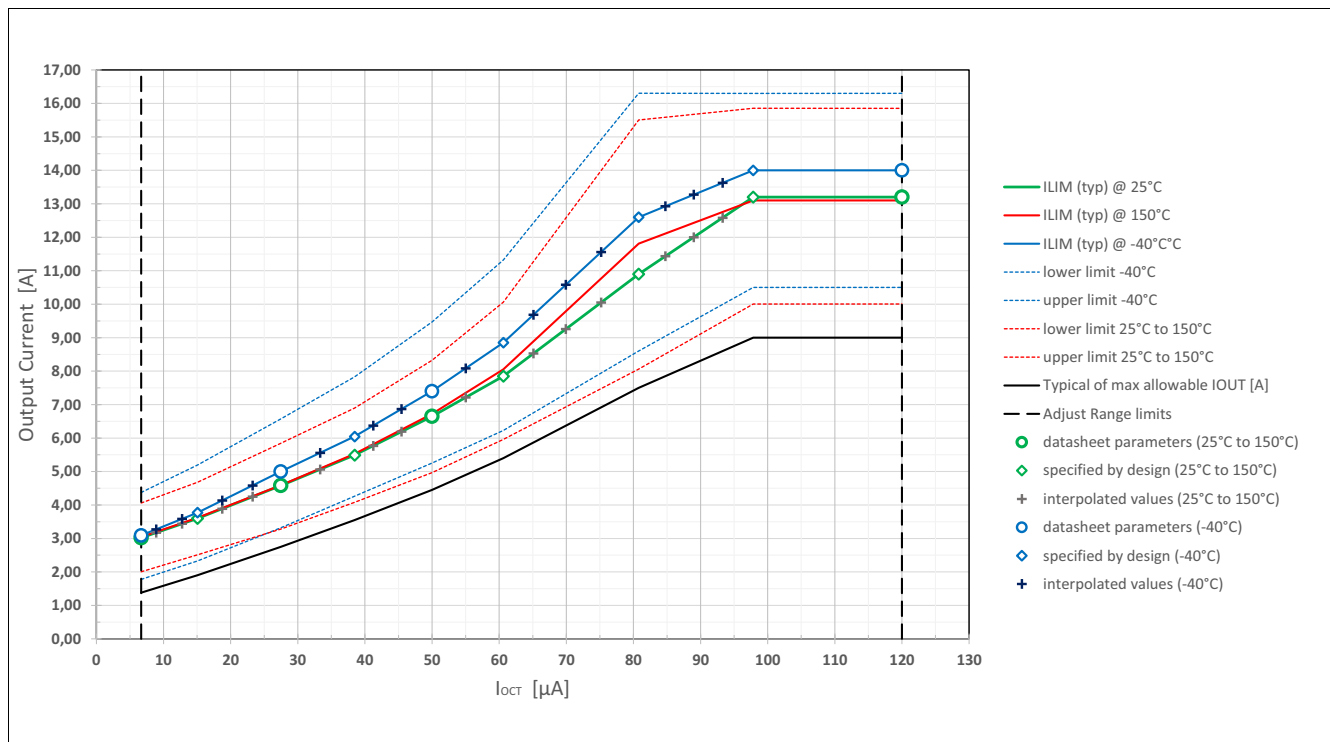

Figure 33 Current limitation threshold $I_{LIM(th,adj)}$ as function of I_{OCT} and related limitation values for different temperatures.
Table 14 below indicates which resistor value R_{OCT} needs to be soldered between OCT-pin and device GND to obtain a desired current limitation threshold $I_{LIM(th,adj)}$. The adjusted current limitation threshold is defined for ambient temperature ($T_j = 25^\circ\text{C}$) and hence, these values coincide with the typical values of the current limit at 25°C . **Table 14** provides an overview about the related minimum and maximum values of the current limit. In a separate column numbers for the maximum allowable $I_{L(NOM)}$ also provides information about the required clearance distance of the output current to the adjusted current limit setting in order not to interact. This clearance needs to be respected for the nominal load current of a given application and represents an upper limit for the allowable nominal load current²⁾. As the typical values of a selected current limit do not vary significantly from $T_j = 25^\circ\text{C}$ up to $T_j = 150^\circ\text{C}$ for most of the I_{OCT} -settings the given maximum and minimum values of the current limit listed in **Table 14** hold true for the temperature range $25^\circ\text{C} \leq T_j \leq 150^\circ\text{C}$. Deviations that have to be expected for the typical values of the current limit at 150°C can be seen in **Figure 33**.
Figure 33 moreover illustrates how the current limitation values will shift for low temperatures. **Table 14** provides typical values for the current limitation for the extreme case of $T_j = -40^\circ\text{C}$. An overview of corresponding minimum and maximum values for the current limitation can be found here.
- ¹⁾ $I_{LIM(th,adj)}$ values coincide with typical values of the current limit I_{LIM} @ 25°C . Typical values for I_{LIM} @ 150°C may show deviation from $I_{LIM(th,adj)}$; see Figure 33 for further details